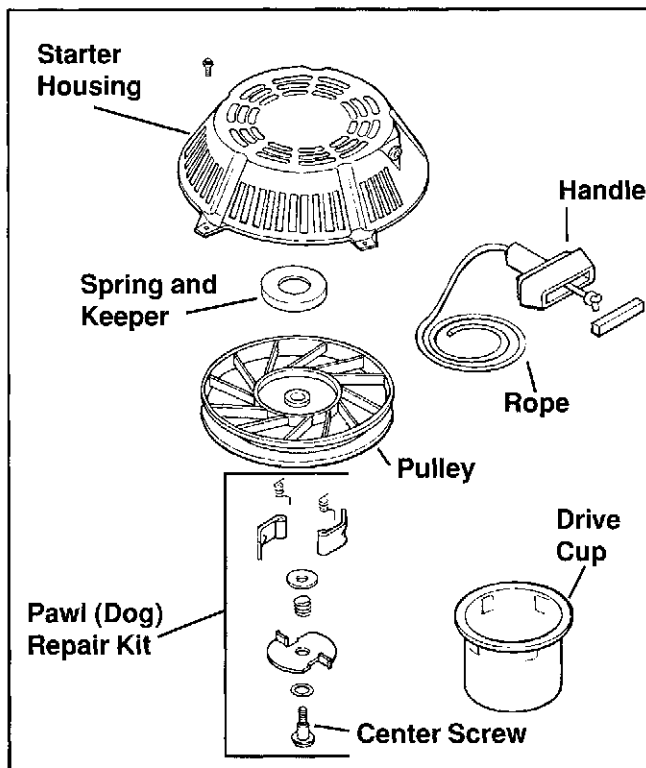

Figure 7-1. Retractable Starter – Exploded View.
- Replace all worn or damaged components. Use only genuine Kohler replacement parts as specified in the Parts Manual. All components shown in Figure 7-1 are available as service parts. Do not use nonstandard parts.